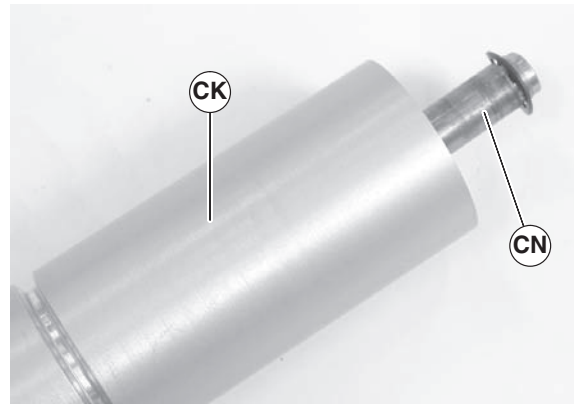

Figure 94
7. Slide the shaft assembly (Figure 94, item CN) out of the pulley (CK).